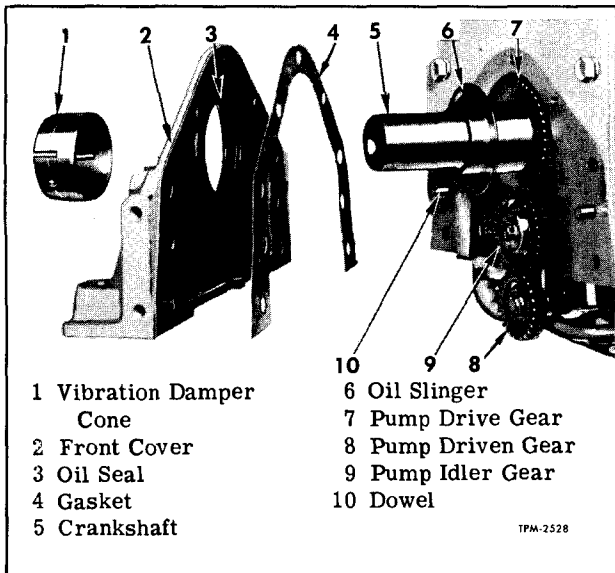

Figure 28—Crankshaft Front Cover Mounting
5. Remove bolts which mount the cover to engine, then tap alternately with hammer to move cover straight away from engine until clear of crankshaft. Remove rear cone (1, fig. 28) from crankshaft. Remove cover gasket.
FRONT COVER AND OIL SEAL INSTALLATION (Refer to Figs. 28 and 29)